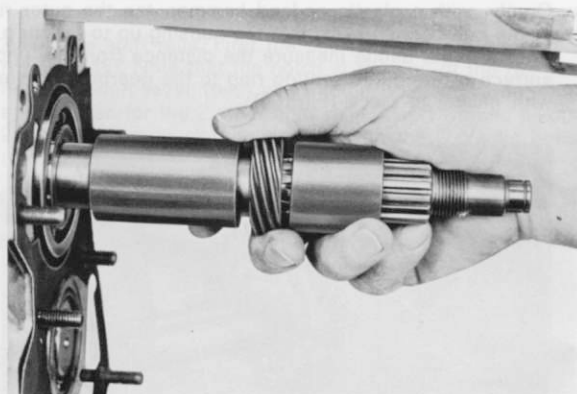

Fig. 58
7. Place long distance bush (426), speedo worm (427) and short distance bush (428) on the mainshaft (Fig. 58). Set split ring into the groove of the mainshaft and push cir-clip over. With a depth gauge measure the space between the split ring and the shorter bush (428). The space must be 0,17 to 0,22 mm. It can be corrected by fitting varying sized distance bushes 33,35; 33,4; 33,45; 33,5; 33,55; 33,6; 33,65 or 33,7 mm. long.